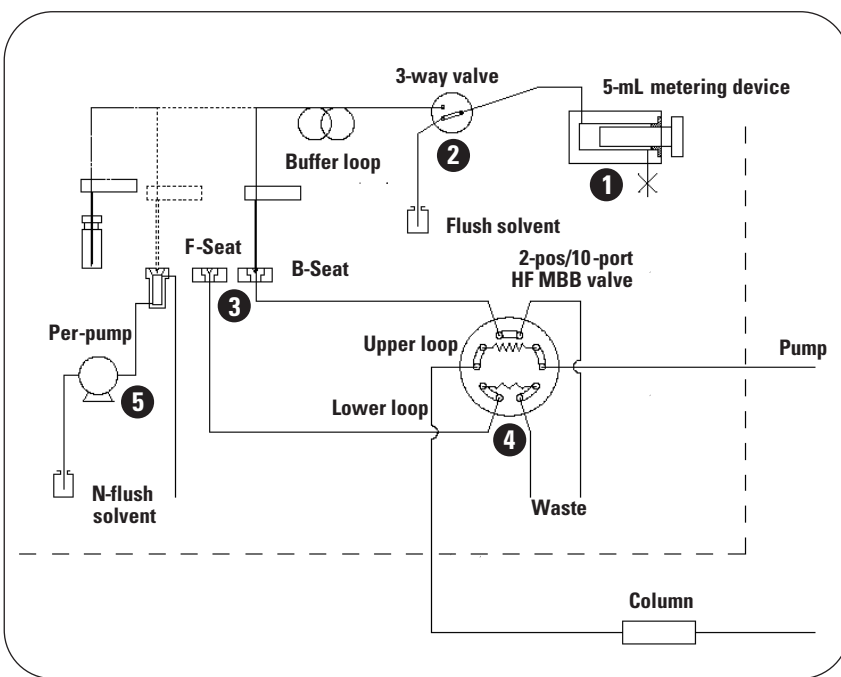
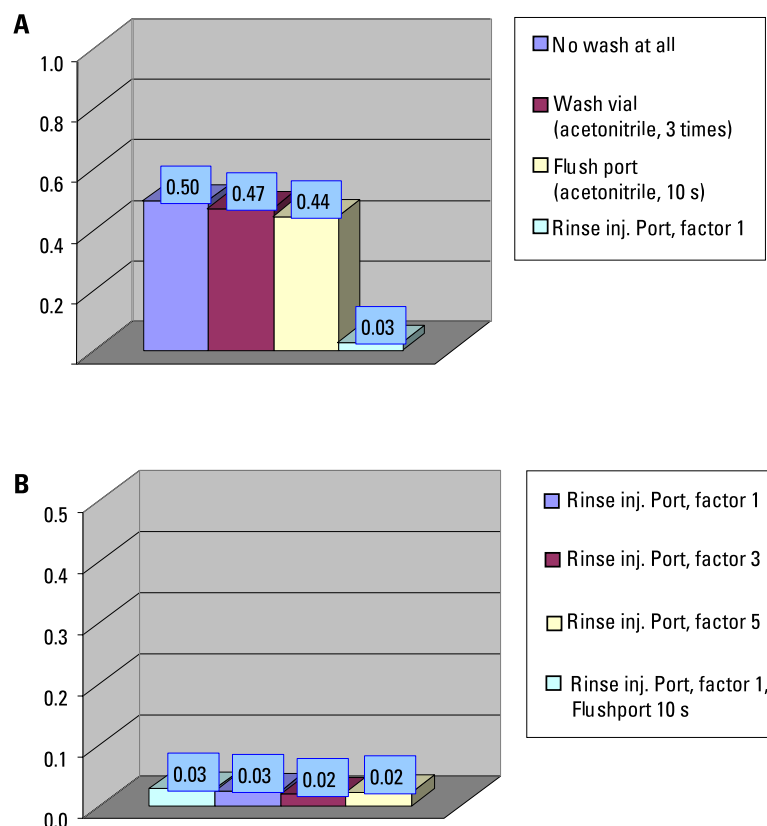

Figure 1
Figure 9
Figure 1 shows the important parts of the DLA:
- The sample is drawn into the needle and the buffer loop (figure 1) using the metering device.
The dual-loop autosampler has several features to minimize carry over. After the sample is drawn into the needle the outside of the needle can be cleaned either by dipping it into a wash vial or by actively washing the needle with an appropriate solvent using the peristaltic pump (figure 1). The carry over can be lowered even further by washing the needle interior, the needle seat and the injection valve after the injection using the wash solvent delivered by the metering device. Figure 9 shows the influence of the different flushing features. The sample used for the experiments contained four compounds of low polarity with a concentration of 2–12mg of each compound in 1000- μ L sample solvent (partial loop fill, 2000- μ L loop).